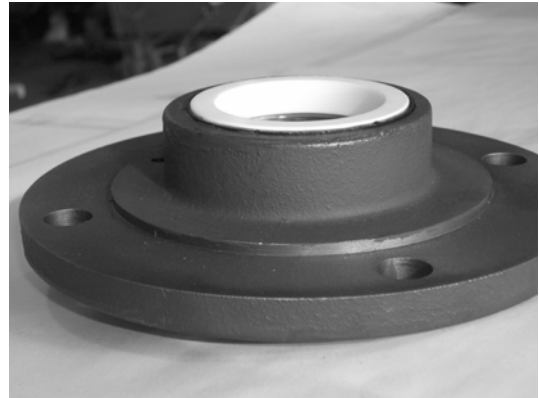

Figure 43: The Seal Seat Installed in the Gland
1. Press the stationary mechanical seal seat into the gland bore. (See Figure 43.) To ease assembly, lightly lubricate the bore with P-80 Rubber Lubricant Emulsion, soapy water, or equivalent.